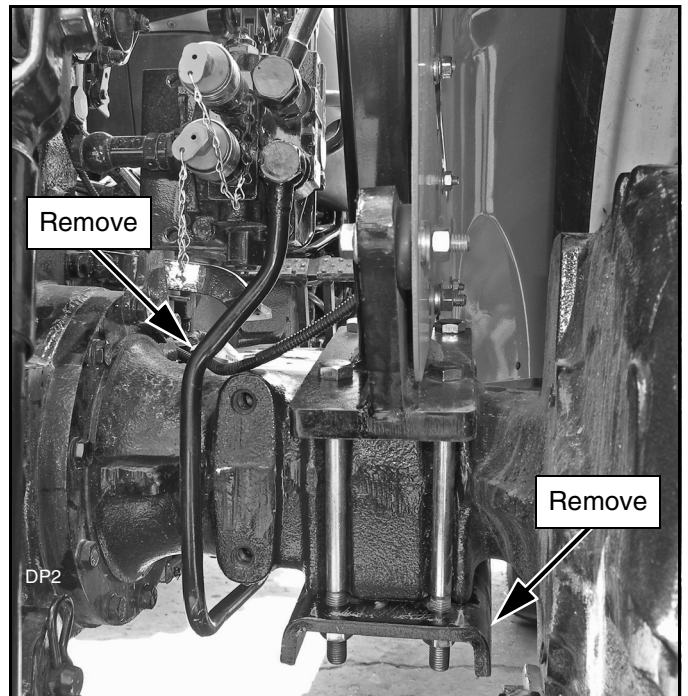

Figure 2. Remove Hydraulic Line & ROPS Bracket (Right Side Shown)
4. Remove the lower ROPS bracket from the bottom of the rear axle (Figure 2). Leave ROPS bolts in place.
6. Disconnect the steel hydraulic line from the hydraulic valve at the rear of the tractor and remove the hydraulic line. See Figure 2.